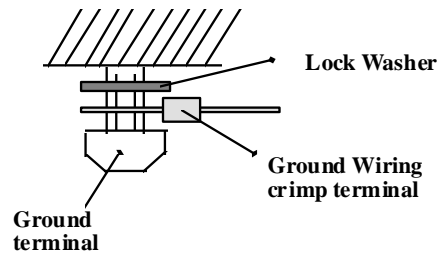

Figure 40: Case Ground Wiring
2. Connect the cable to the converter case ground terminal so that the lock washer makes contact with the case as shown in Figure 40.